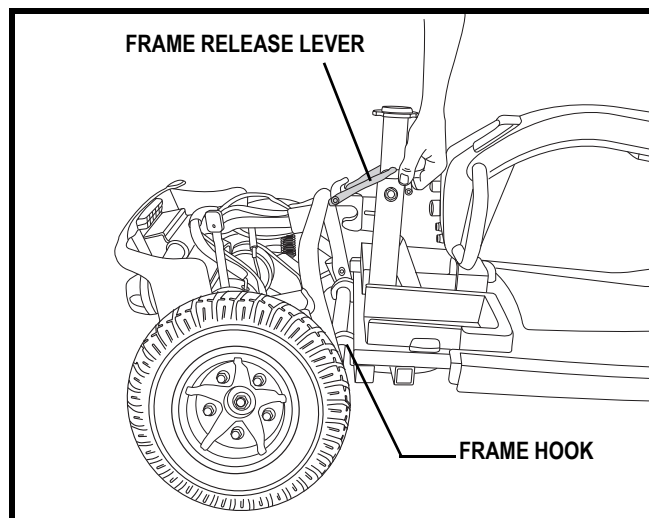

Figure 26. Frame Release
1. Lift up on the frame release lever. See figure 26.
3. Once the frame hooks are over the lower frame tube, lower the front section completely. This will engage the frame lock. See figure 26.